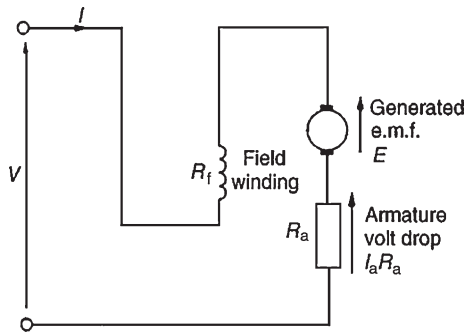

Figure 22.20
In the series-wound motor the field winding is in series with the armature across the supply, as shown in Fig. 22.20.
For the series motor shown in Fig. 22.20,
- (a) With reference to Fig. 22.20, generated e.m.f.,  $E_1$  at initial load, is given by